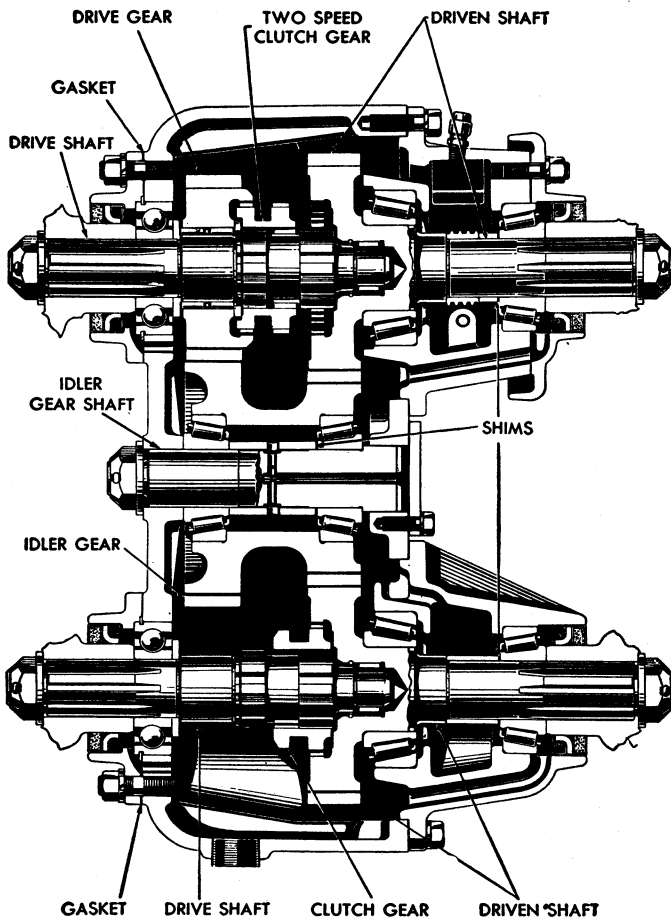

Fig. 5 Transfer case. Model 39360
1. Remove three propeller shaft companion yokes, Fig. 5